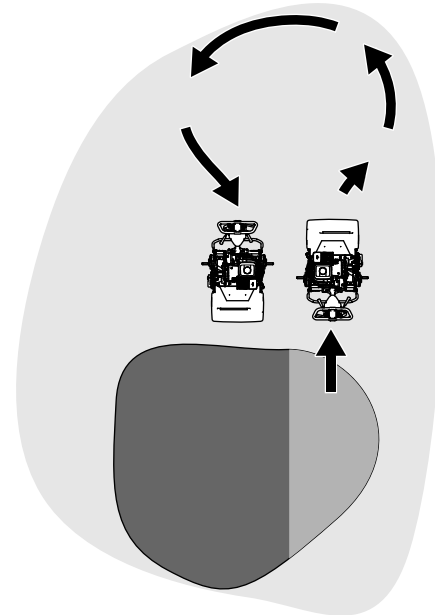

Figure 14
- Turn the machine off the green by raising the cutting reel (pushing the handle down) and performing a tear-shaped turn on the traction drum (Figure 14).
1. Locate the traction-engagement lever on the transmission gearbox (Figure 14).